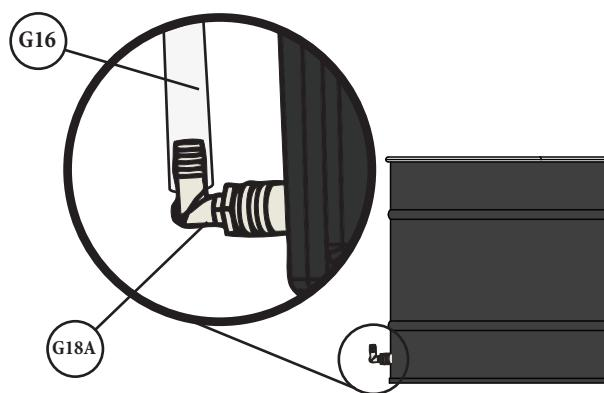

FIG. 29
29 Attach the other end of the Vinyl Tubing (G16) onto the Nylon Elbow (G18A) installed on the lower section of the Drum (L). Push the Vinyl Tubing onto the fitting so that all the barbs are covered [FIG. 29].